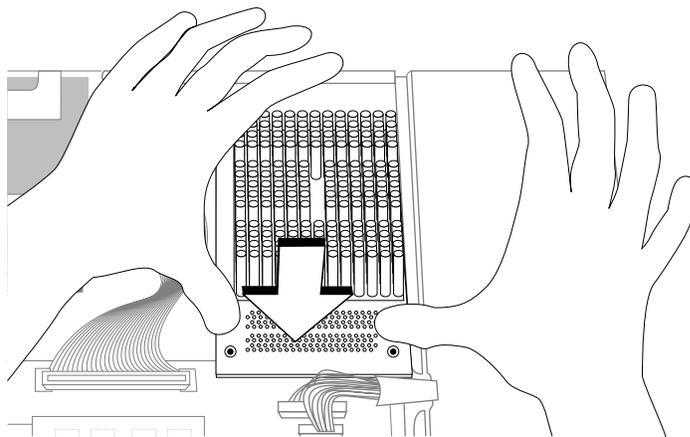

Figure 9-14 Installing the CPU module
8. Install the replacement CPU module, as shown in Figure 9-14.